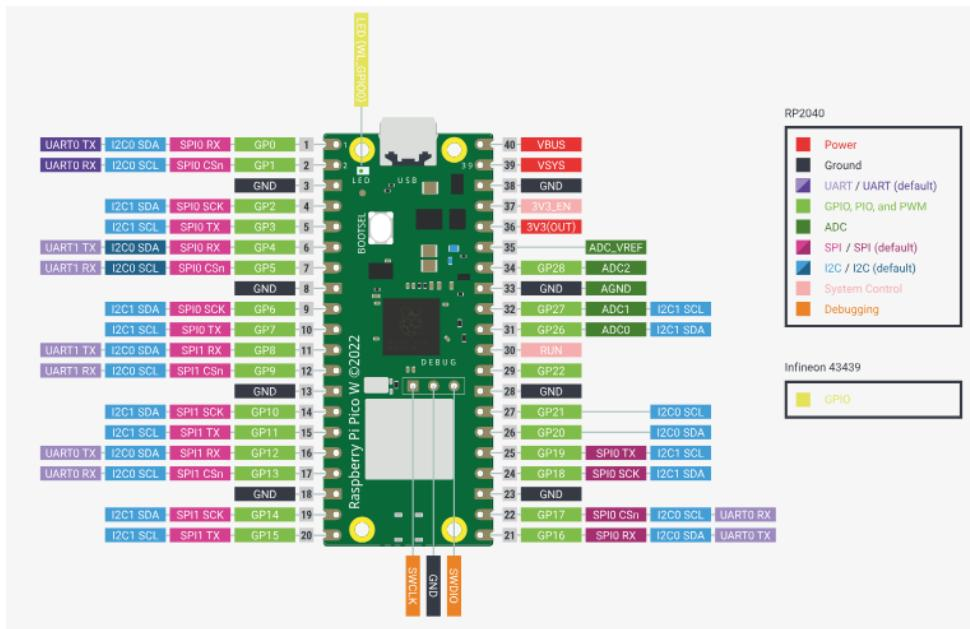

Fig. A.1: PICOW Pin Diagram
9. See Fig. A.1 for the picow pin diagram. You may reuse all the Arduino codes for pico by changing only the platformio.ini file.